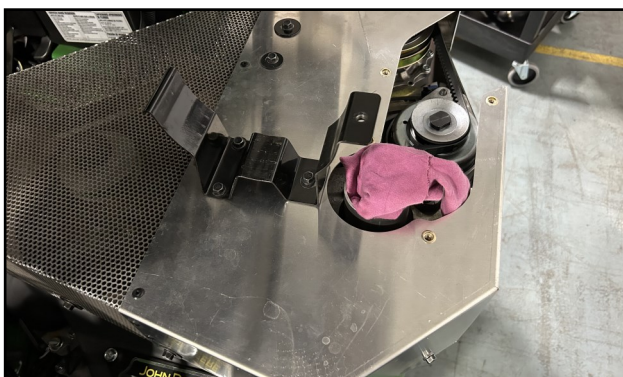

Fig. 2.31c (OEM Air Filter Bracket)
Re-install the OEM air filter bracket removed in step 1.5 using (3) 1/4-20X3/4" Flange Hex Screws. See Figure 2.31c.